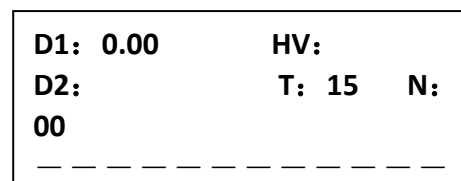

Fig 4
1.1 Connected the power cord. Turn on the power switch, and the lighting source and the LCD screen are both light up at the same time. The indenter and the objective manually (iVick-472H) or automatically (iVick-472M) shift and the measuring objective turn to the front working position. At this point, the screen shows (Fig.4):